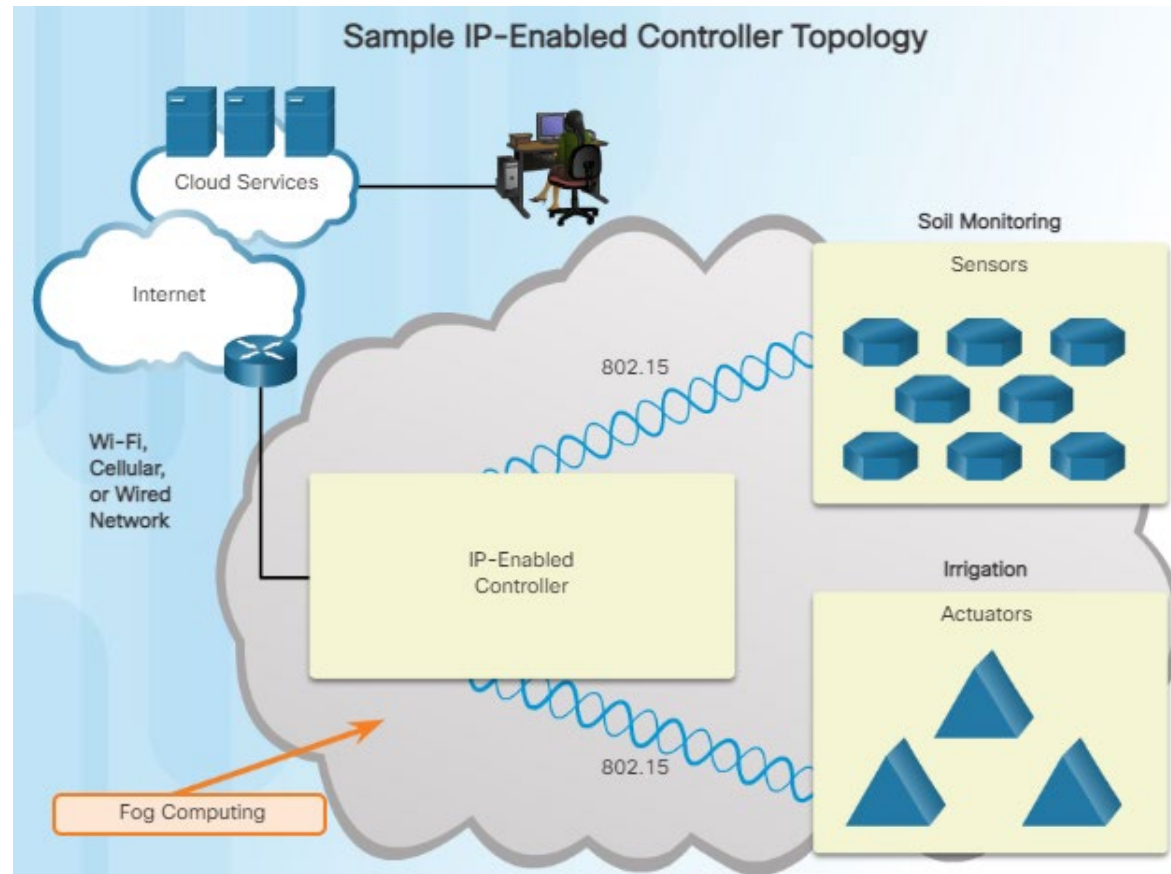

Figure 3
- Figure 3 provides examples of how sensors are used in various industries. Click each to see what these sensors measure.
- Figure 3 displays an example of IP-enabled controllers. The IP-enabled controller forwards information across an IP network, and allows individuals to access the controller remotely. In addition to forwarding basic information in an M2M configuration, some controllers are able to perform more complex operations. Some controllers can consolidate information from multiple sensors or perform basic analysis of data received.